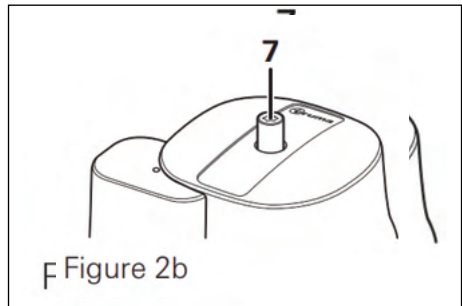

Figure 2b
- Connect the gas cylinder (2) and ensure that the hose connection is in perfect condition.
- Open the cylinder valve (1).
- If the motorhome is fitted with a Crash Sensor, press the yellow reset button to activate the regulator" - seen in figure 2b